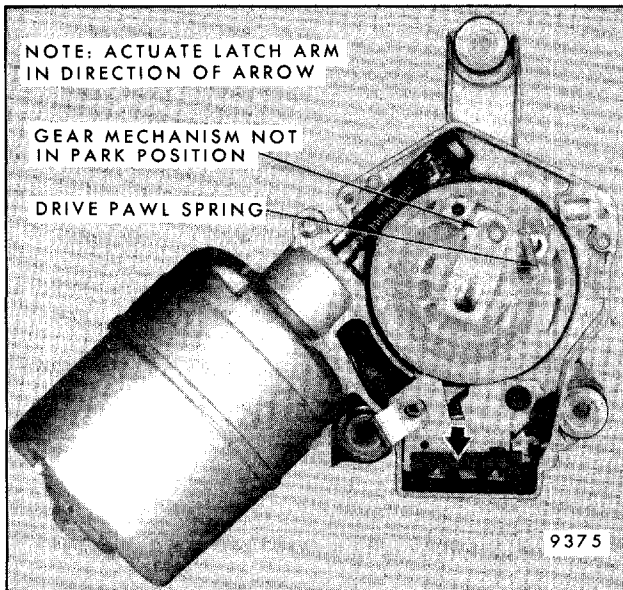

Fig. 2-50-Testing Relay Switch
- a. If gear mechanism is in full park position, insert a small screwdriver into the switch slot (between the drive pawl and the latch arm) and push latch arm downward and toward the relay switch coil in direction of the arrow in Figure 2-50. Next, remove washer pump assembly and probe (penetrate insulation) black with pink stripe wire with 12V tester.